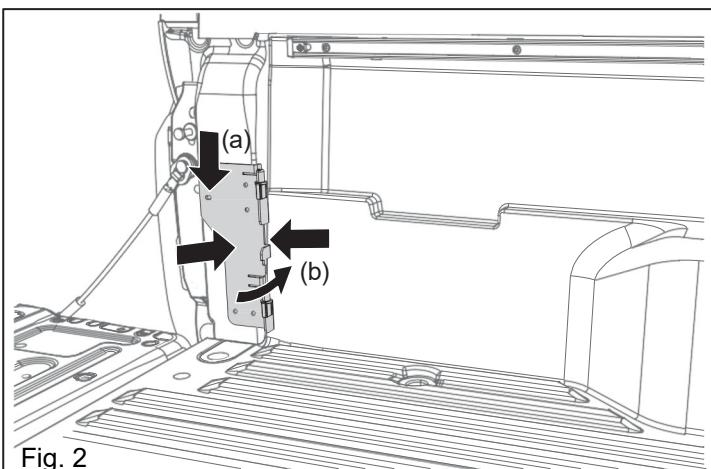

Fig. 2
2. Use the truck bracket as a guide, Fig. 2.